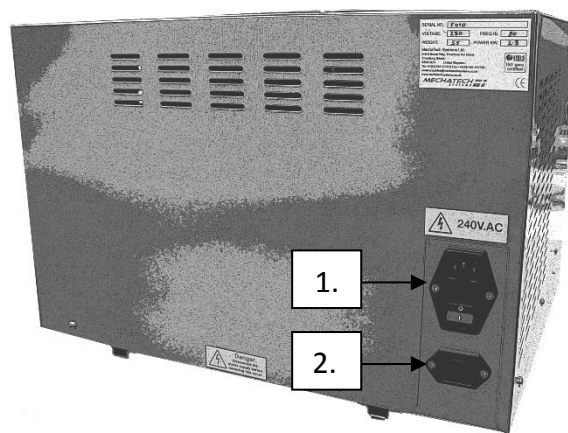

Figure 2 – LyoDry Benchtop Pro Rear connections.
2. Ensure that the main switch (item 1, figure 2) is on the '0' (off) position.
5. The LyoDry Benchtop Pro is supplied with a 1.5 metre length of 3-core electrical supply cable. Connect the cable to the vacuum pump and the LyoDry Benchtop Pro pump power outlet on the rear of the LyoDry Benchtop Pro (item 2, figure 2).
1. Switch on the electrical supply and then turn the main switch (item 1, figure 2) to the '1' (on) position.